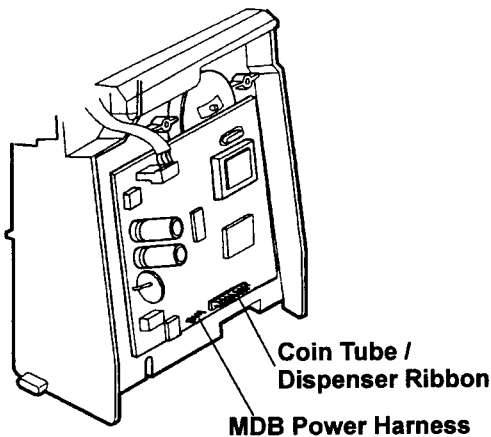

Figure 17: Removing the Recognition Sensor Harness and the Solenoid Harness
- Disconnect the Dispenser and Solenoid Harness from the back of the Acceptor (Figure 17).
- Remove the Solenoid Harness from its slot in the bottom of the Acceptor Assembly (Figure 17). The Gate Assembly can now be repaired or replaced.